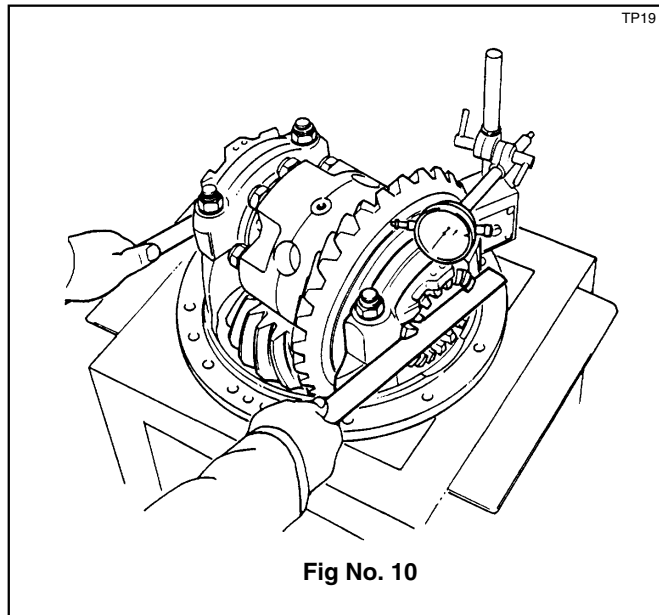

Fig No. 10
- 16.5 Fit diff. adjusting nut split pins (43) as shown in fig. no. 10.